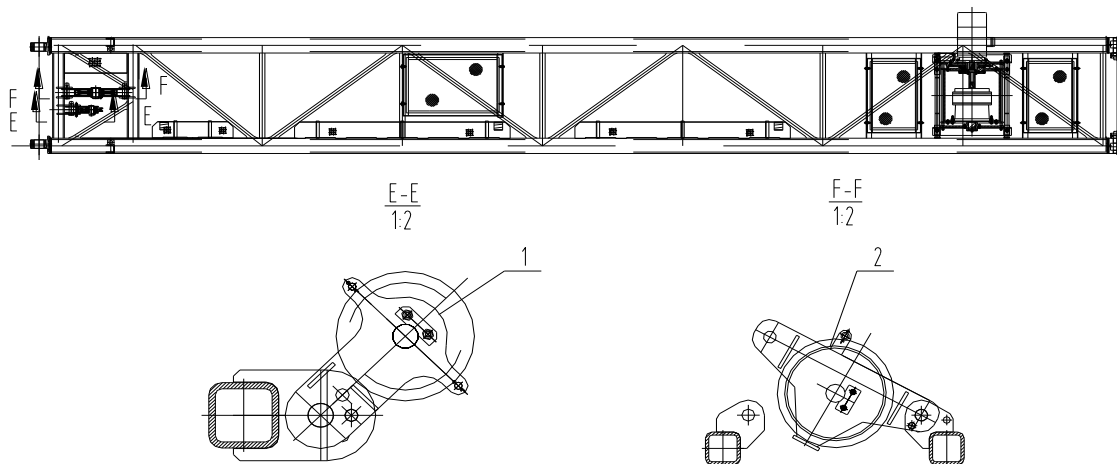

Fig. 4-27 State of the hoisting and trolley pulleys in transportation
- To avoid of the hoisting and trolley pulleys touching the ground when being transported and stored, the state of the pulleys should be like the Fig. 4-27.